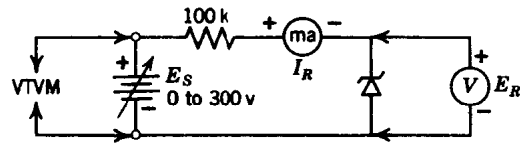

Fig. 2. Zener breakdown circuit.
3. Construct the circuit in Fig. 2. This circuit will give the reverse bias characteristics.